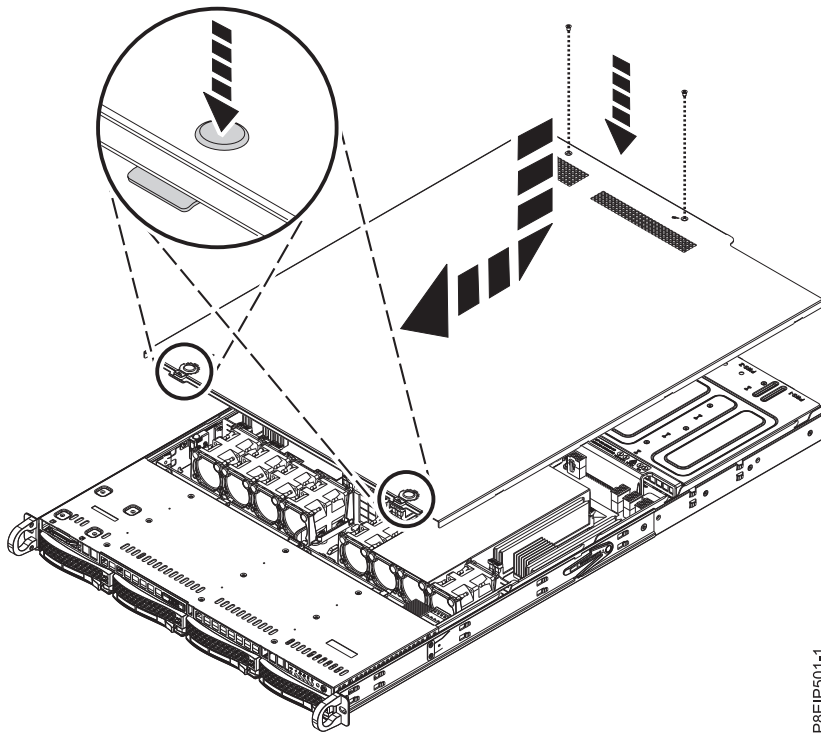

Figure 58. Replacing and securing the cover
- Slide the cover forwards until it latches into place as shown in Figure 58.